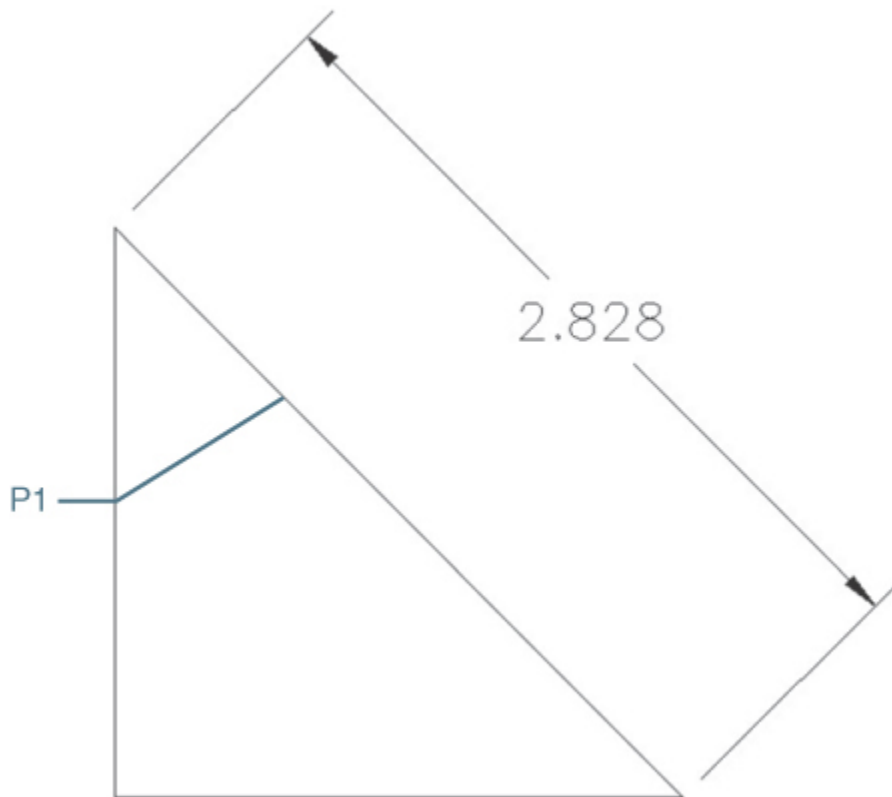

Figure 13-17
- 4 Pick the line at P1 shown in Figure 13-17. AutoCAD places the defpoints at the ends of the line and prompts you to *Specify dimension line location or =*.
- 5 Place the dimension line as shown in Figure 13-17.
- 6 Save your drawing. Your drawing should look like Figure 13-17.